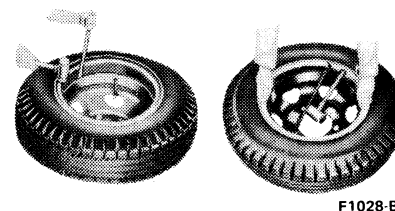

FIG. 3 Installing and Checking Ring—Two-Piece Rim
2. To apply second bead, start at point opposite valve and press tire bead over rim lip and into rim well (Fig. 3). Mount remainder of bead over rim lip by means of thin tire tool, being careful not to pinch tube. If necessary, insert second tire tool and lubricate last 6 inches of bead before completing mounting.